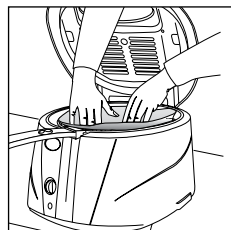

fig. 7
3. Put the basket back in the high position and place one of the filters supplied at the bottom of the basket (fig. 7). You can obtain the filters from your retailer or one of our service centres.